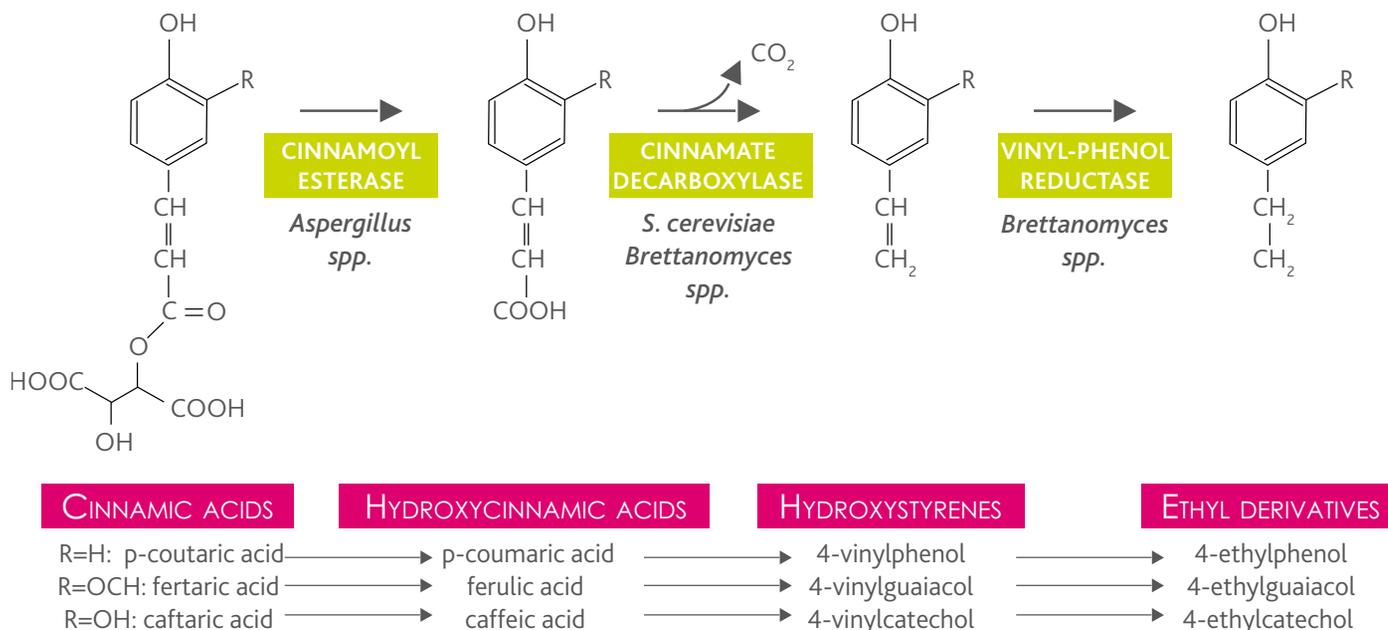

Figure 2. Conversion of cinnamic acids to Ethyl derivatives (Sourced from BIOLAFFORT®, France).
*Saccharomyces cerevisiae* strains may be characterised as either POF+ (ability to produce vinyl phenols), or POF- (not able to produce vinyl phenols). This means that they can produce vinyl phenols from hydroxycinnamic acids which are naturally present in grapes (**Figure 2**). This is of concern as some yeasts are able to convert vinyl phenols into ethyl-phenols. Of winemaking concern is the production of 4-ethyl-phenol and 4-ethyl guaiacol by *Brettanomyces bruxellensis* which can be detrimental to wine quality. Other yeast species are able to produce these compounds, but *B. bruxellensis* is very good at it and able to tolerate winemaking conditions that many other species are not able to tolerate.